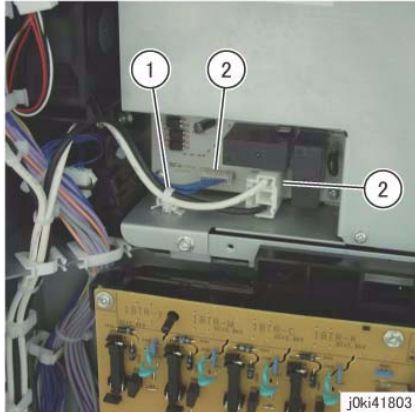

Figure 4 Disconnect the IH Driver PWB connectors
7. Disconnect the connector of the IH Driver PWB. (Figure 4)